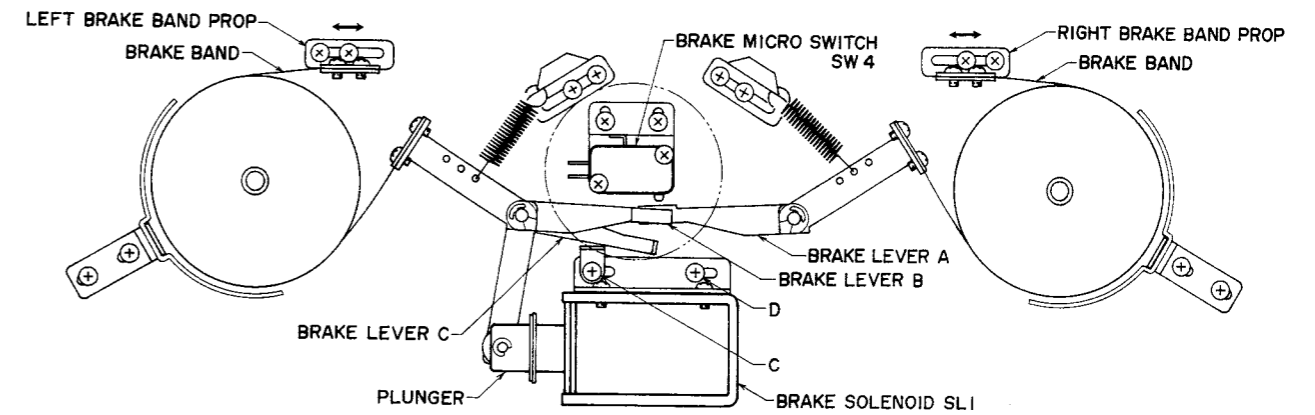
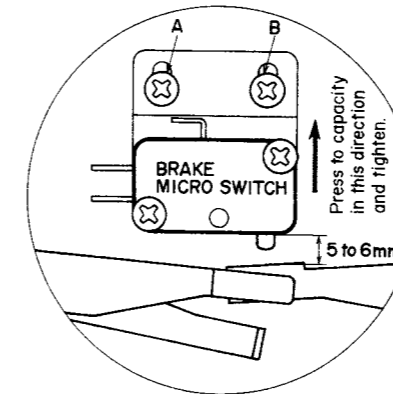

Fig. 5
Fig. 6
- 1) As shown in Fig. 6, press brake micro switch as far as it will go toward the top of the mechanical frame, and tighten screws A and B.
- 2) Move the Right Brake Band Prop shown in Fig. 5 so that the gap between Brake Lever A and the body of Brake Micro Switch is 5 to 6mm (See Fig. 6).
- 3) Move the Left Brake Band Prop shown in Fig. 5 so that Brake Lever B and Brake Lever A are simultaneously operated by Brake Lever C.